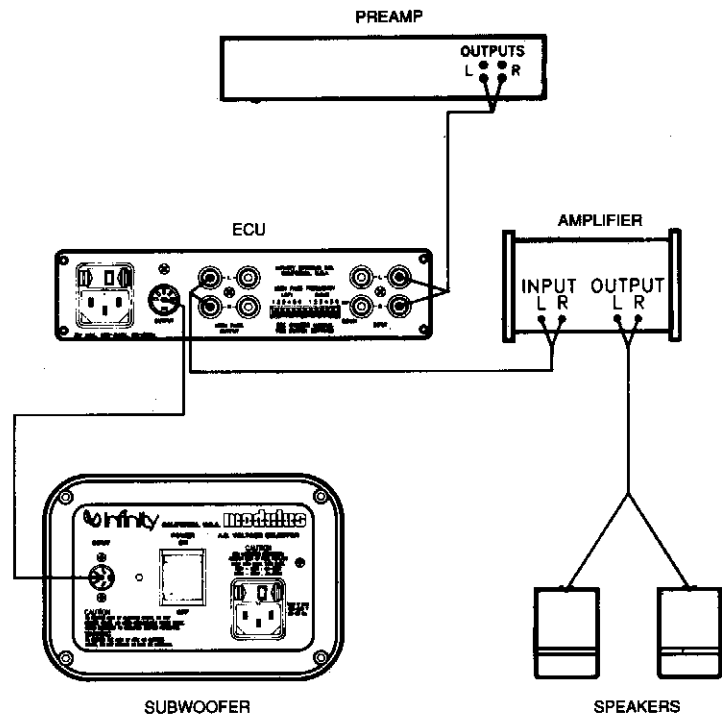

Figure 6. System Interconnecting Diagram
3. Refer to figure 6 and connect the **PREAMPLIFIER OUTPUT** to one of the **ECU INPUT** pairs.